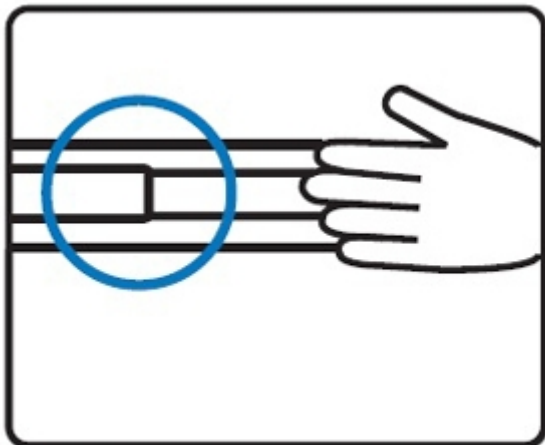

Figure 9.
- Push the LCD drawer into the rack. (shown in Figure 9).